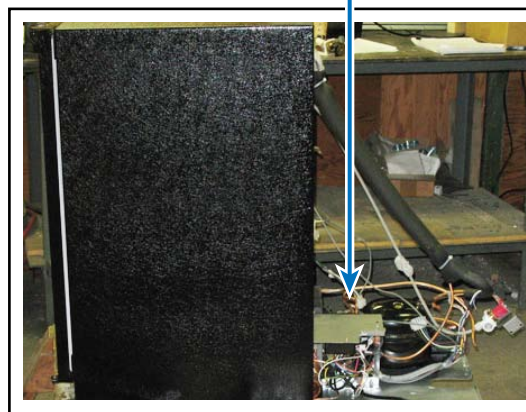

Figure 10
8. Gently slide the mechanical out the back of the unit just enough to gain access to the hot gas valve and drier assembly (see **Figure 10**).
18. Gently slide mechanical out back of unit just enough to gain access to the assembly (see **Figure 10**).